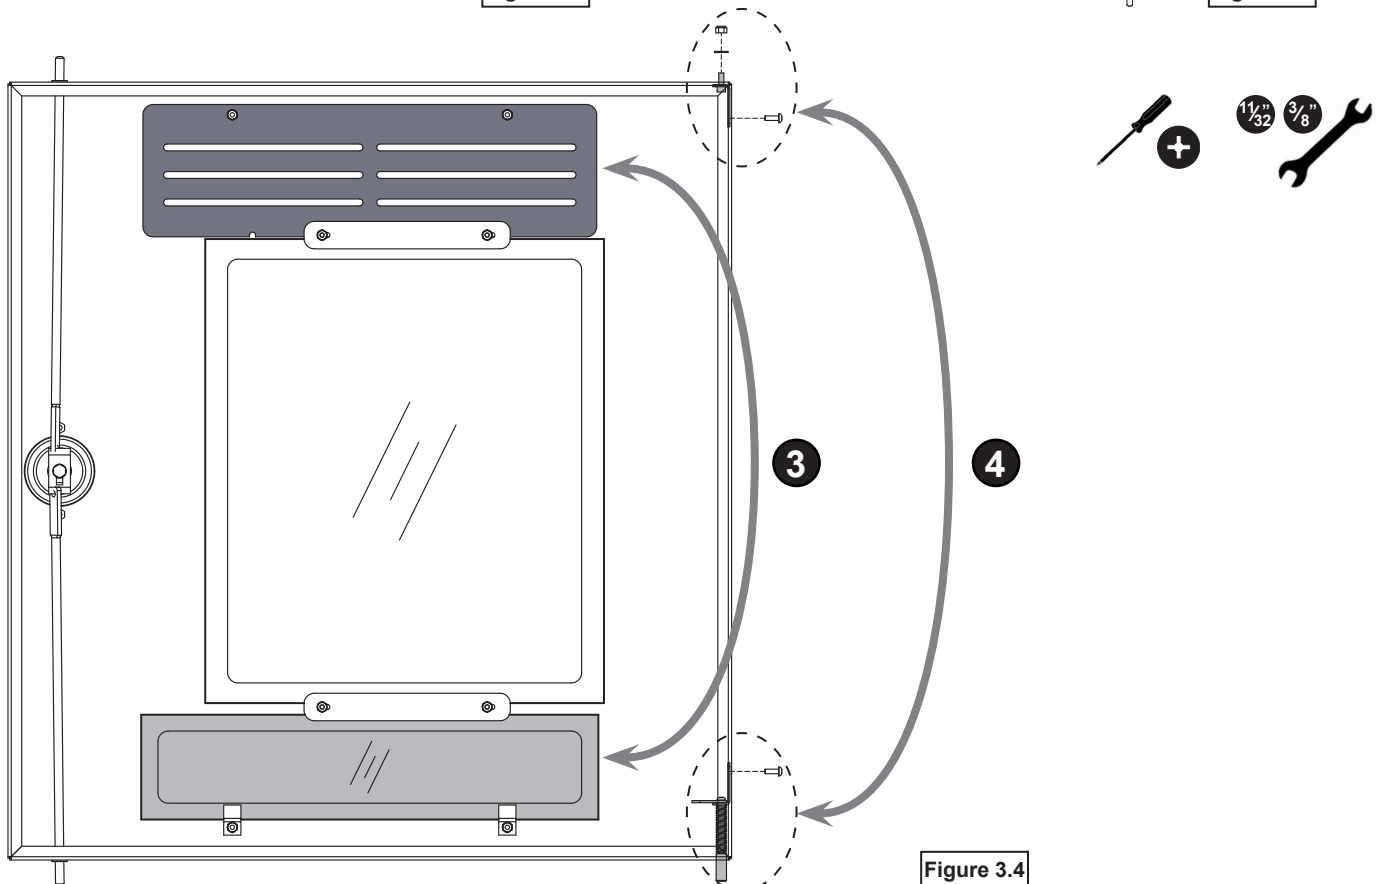

Figure 3.4
3. The vented panel should be located on the bottom of the door. Switch the lower vented metal panel with the upper acrylic panel (requires removing or loosening 8-32 nuts.) **Figure 3.4.**